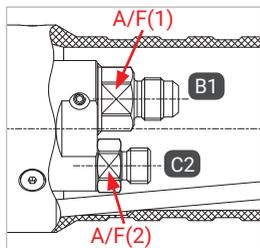

Figure 1
- ▶ When mounting the filling and venting hose, hold an open-ended spanner against the spanner flat A/F(1) and A/F(2) (Figure 1).
- ▶ Screw the media inlet 'B1' pressure-tight onto the connection port of the filling hose (Figure 1). Please see the table below for the tightening torque.
- ▶ Screw the gas recirculation 'C2' pressure tight onto the connection port of the venting hose (Figure 1). Please see the table below for the tightening torque.